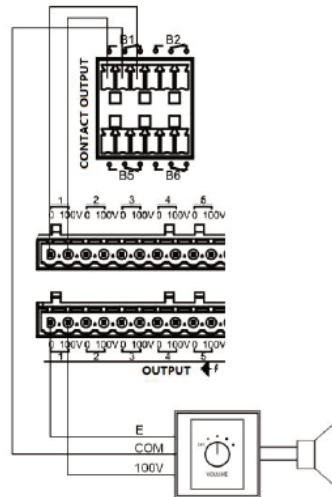
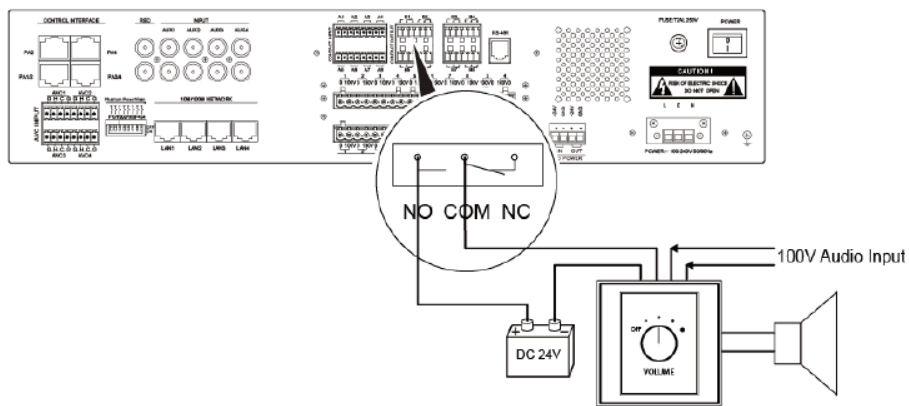

Figure 22 Schematic Diagram of the ZS-2000M and Three-Line Volume controller Connection
Figure 23 Schematic Diagram of the ZS-2000M and Four-Line Volume controller Connection
3. Connect the external equipment or switch to the other end of the dry contact output cable. Figure 22 is schematic diagram of the ZS-2000M and three-line volume controller connection. Figure 23 is schematic diagram of the ZS-2000M and four-line volume controller connection.